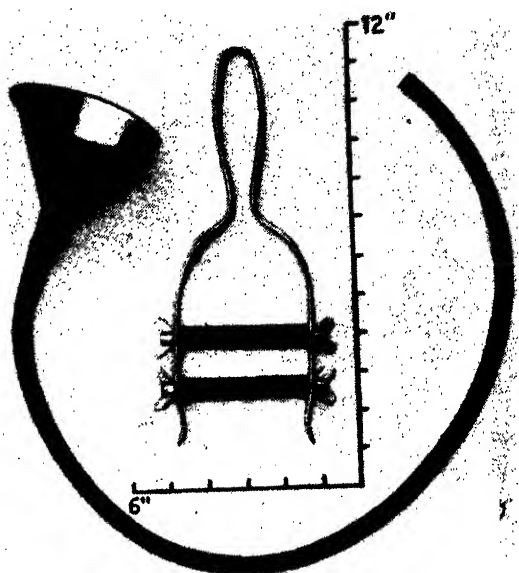

Fig. 2.—Pig Gag and Stomach Tube.
(1) *Stomach Tube* (Fig. 2).—This is the safest and least expensive method. The equipment needed is a pig gag (which can be made by the local blacksmith), a glass measuring cylinder and the stomach tube, which consists of about 2 feet of rubber tubing attached at one end to a tin funnel.